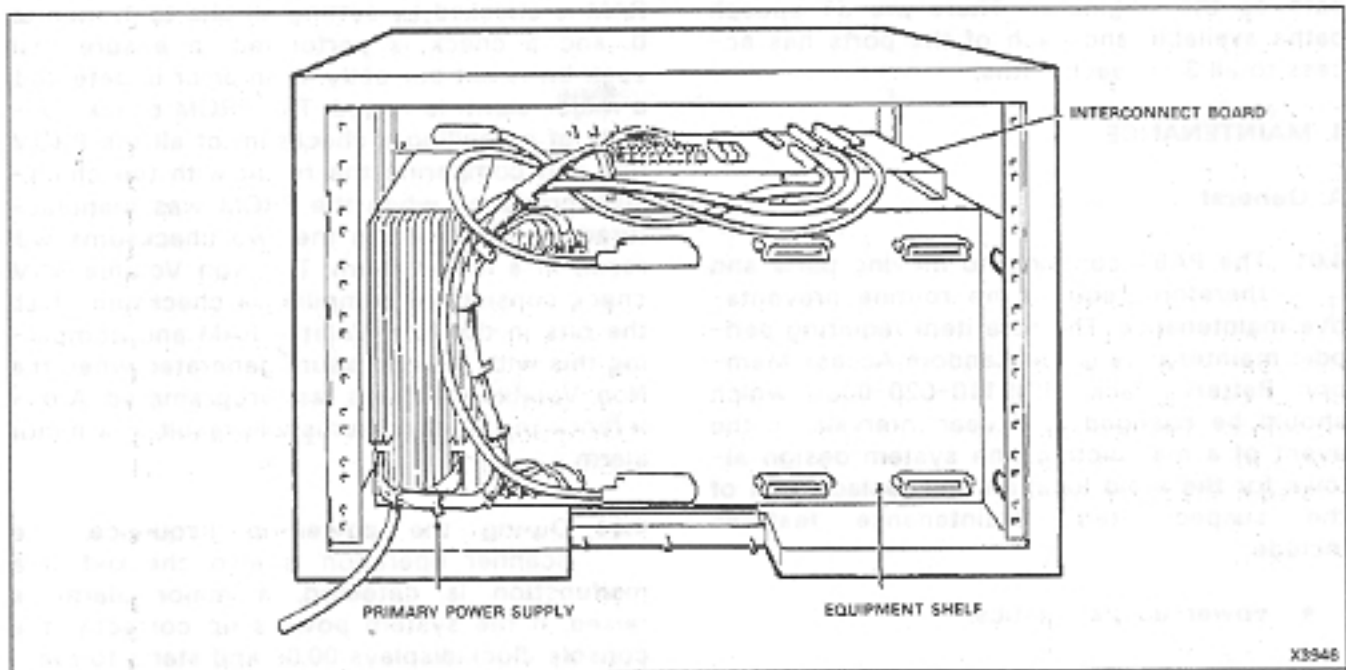

Fig. 2-6 SX-100 Primary Power Supply
2.15 The system primary power supply (Fig. 2-6 and 2-7), provides all system power from a 115 Vac. In the SX-200, optional factory strapping allows for 220 Vac operation. The SX-100 has a 220 Vac adapter to allow 115 Vac power to the system.